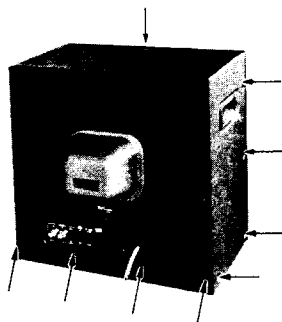

Fig. 3
- Remove thirteen screws fixing the upper cover and remove the cover.(Fig. 3)